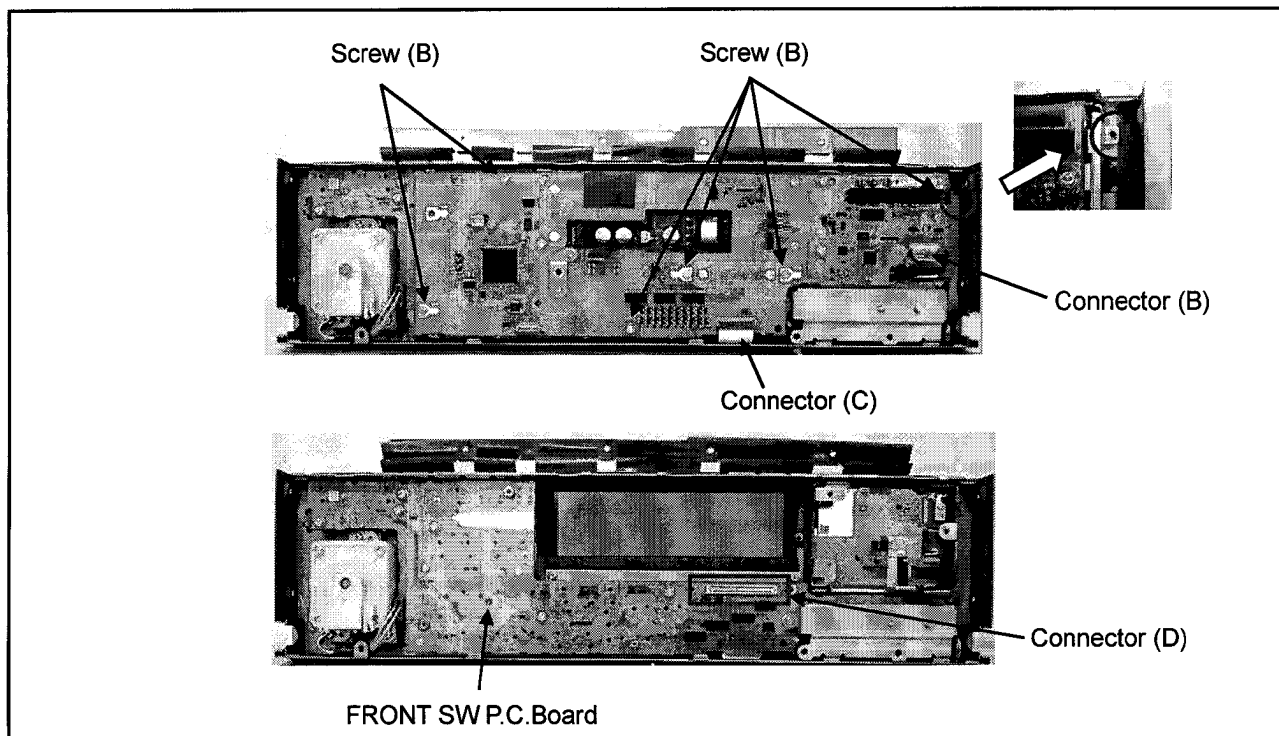

Figure 5-2
5. Disconnect the connector (B) and (C) as shown in figure 5-2.
6. Unscrew the 6 screws (B) as shown in figure 5-2.
7. Disconnect a connector (D) combined with the FRONT SW P.C.Board as shown in figure 5-2 and remove the FRONT CPU P.C.Board.
The connector (D) should be connected completely as shown in figure 5-2 and confirm that the FRONT CPU P.C.Board fitted in a unit correctly as shown in figure 5-2 when you install the FRONT CPU P.C.Board.